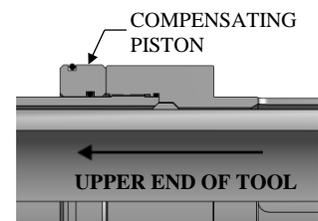

Fig. 3
NOTE₉: Ensure compensating piston (9) is installed in correct direction (Fig. 3).